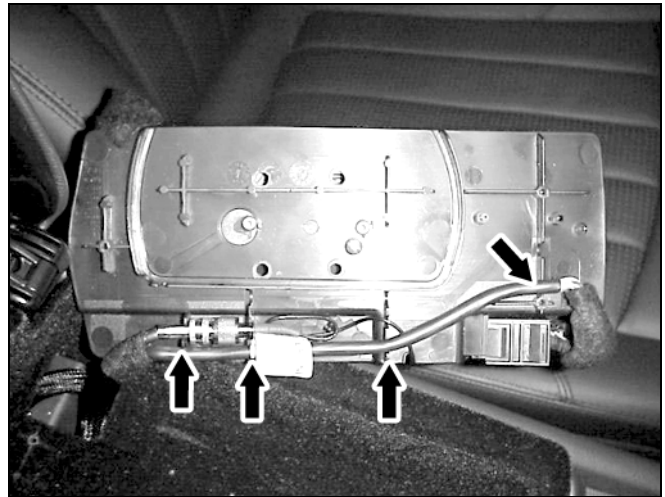

Figure 13
10. Route the cables through the channels according to the schematic on the false floor underside (Figure 13).